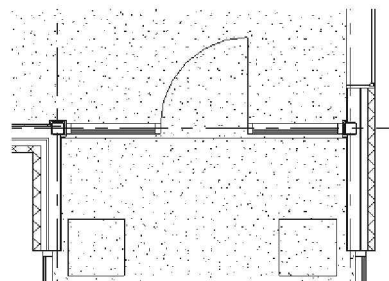

FIGURE 11-4.8 Level 2
35. Following the steps just covered, place an 8'-6" tall curtain wall along Grid B on Level 2 (Figure 11-4.8).